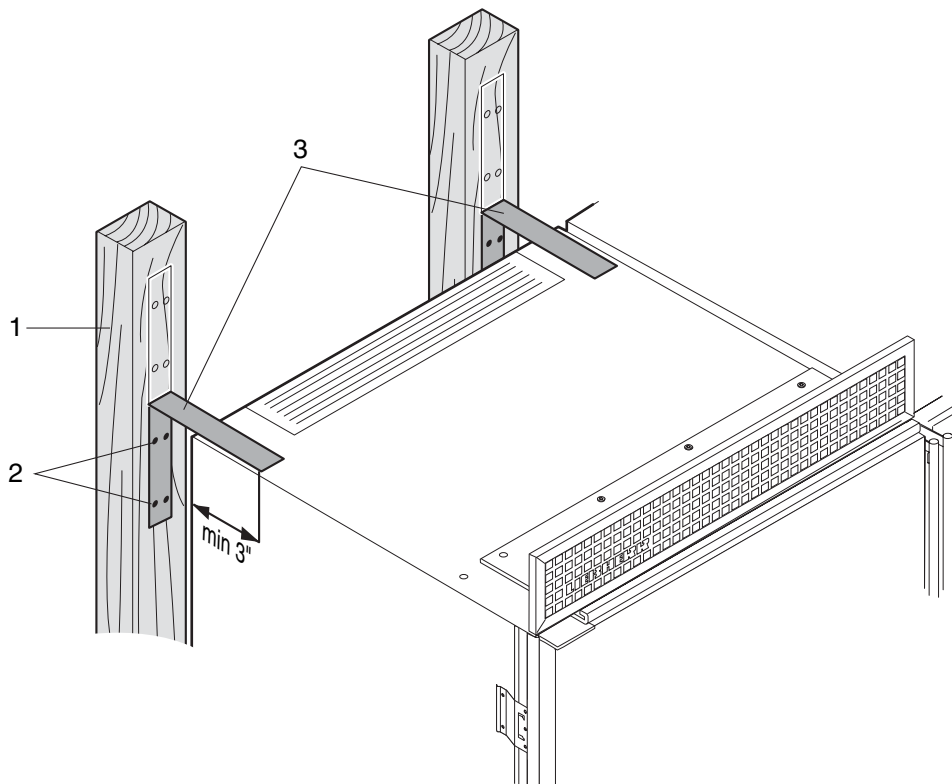

Figure 21
1. **Figure 21:** Secure the refrigerator in place so it does not tip forward when the fully stocked door is opened.